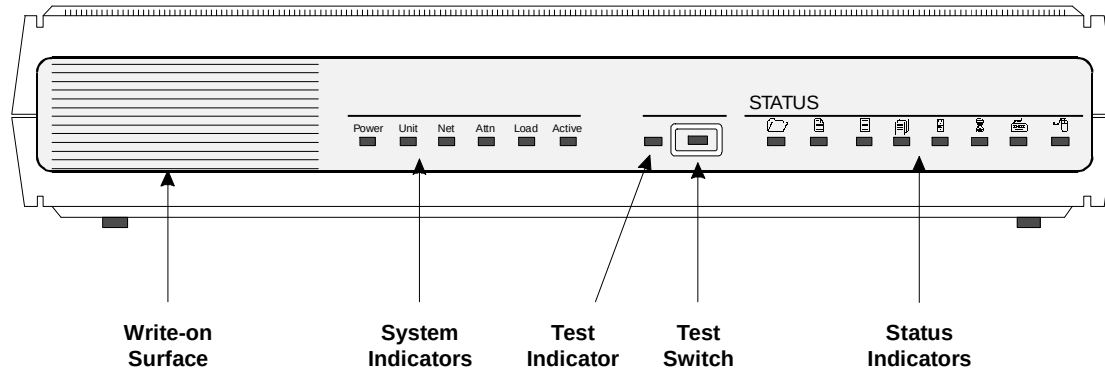

Figure 3-23: Front Panel of the Network Terminal Server
8. Turn the NTS *Off* and *On* again. Within 15 seconds, push the **TEST** button on the front of the NTS (see Figure 3-23).